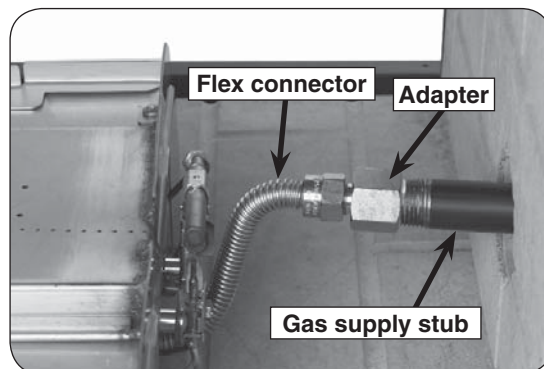

Fig. 14-1 Connect gas supply
2. Locate the gas-supply stub inside the fireplace and remove the cap, if attached (reference Fig. 14-1).
4. **Be sure gas to the fireplace is off.** Remove the adapter that is loosely connected to the flex connector (coming off of the burner system). Attach the adapter to the gas-supply stub using a pipe compound resistant to all gasses. Tighten securely. Then attach the open end of the flex connector to the adapter. Tighten securely. (See Fig. 14-1.)